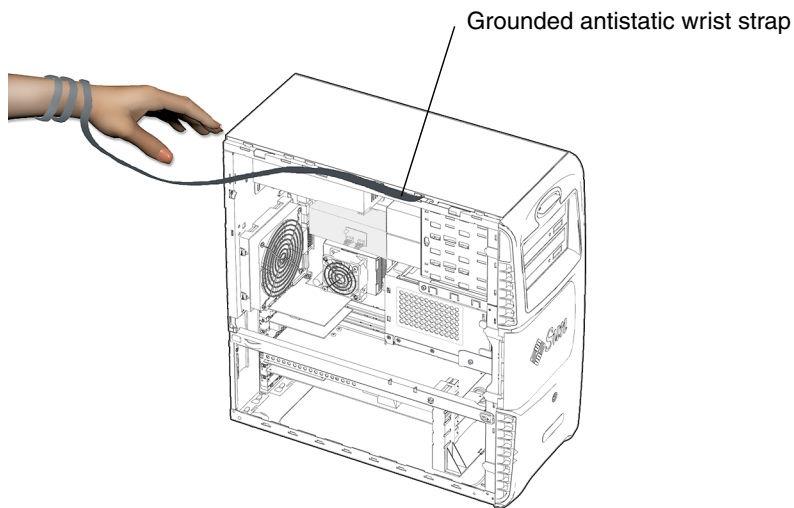

FIGURE 10-8 Attaching the Antistatic Wrist Strap
5. **Attach the antistatic wrist strap** (FIGURE 10-8).